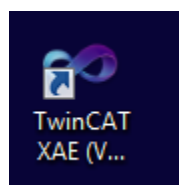

Figure 15. TwinCAT3 XAE Desktop Icon
- (b) Desktop icon is shown in Figure 15.